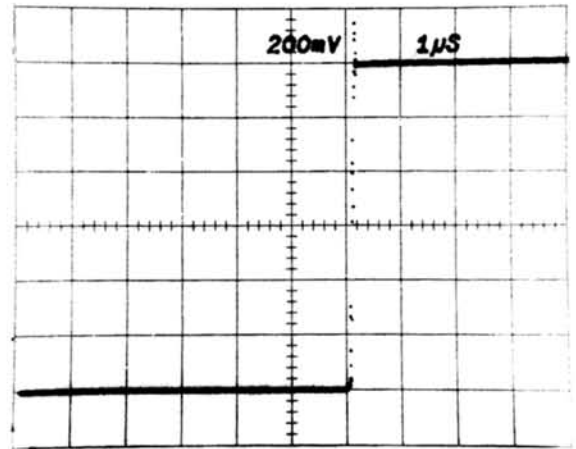

Fig. 7-15. 1.2 Volt Step at .2 VOLTS/DIV.
e. Trigger a display then center the step using the DELAY TIME MULT control and the DC OFFSET control. The display should appear as shown in Fig. 7-15.